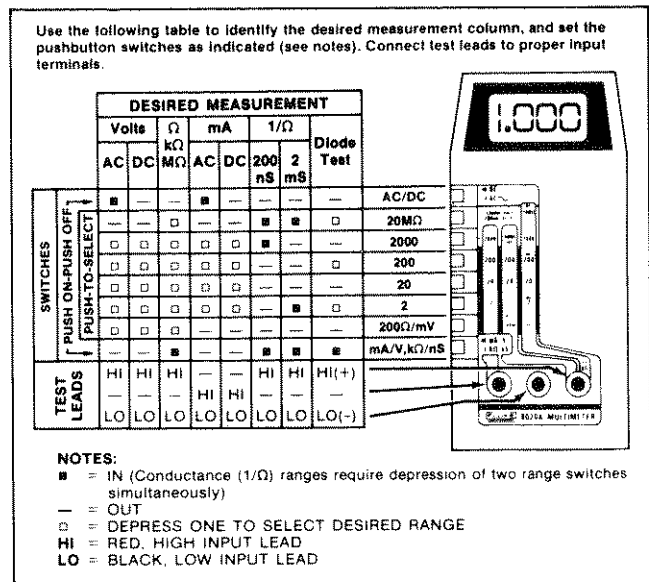

Figure 2-6. Selecting a Function and Range
- b. With reference to Figure 2-6, set the range and function switches for the desired measurement.
- c. Connect the test leads to the appropriate input terminals. See Figure 2-6.